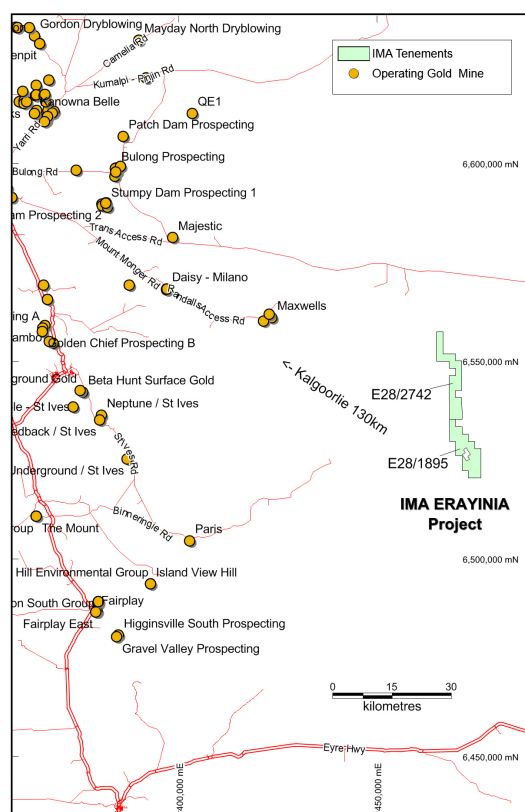

Figure 1 Location of Erayinia and operating gold mines in the Kalgoorlie region.
Image Resources is pleased to announce encouraging results from its first-pass drilling of 6 reverse circulation (RC) drill holes totalling 650 metres at Image's 100%-owned Erayinia prospect (E28/1845 and E28/2742 totalling 106.7 sq. km), located 130km ESE of Kalgoorlie and numerous other operating gold mines (Fig.1) The drill programme has been successful in identifying strike continuity of the King mineralisation (historically drilled by WMC in 1998-99 and Integra 2003-07*), which starts 350 metres to the south.